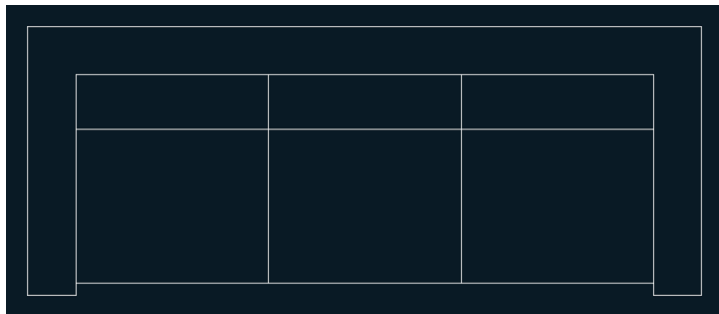

FIGURE 9.6 Redesigned sofa drawing
12. Press the spacebar to repeat the FILLET command. Click the outer line on the left arm of the sofa, and then click the top back line. The sofa redesign is complete (see Figure 9.6).
Open Sofa2.dwg (see Figure 9.6).